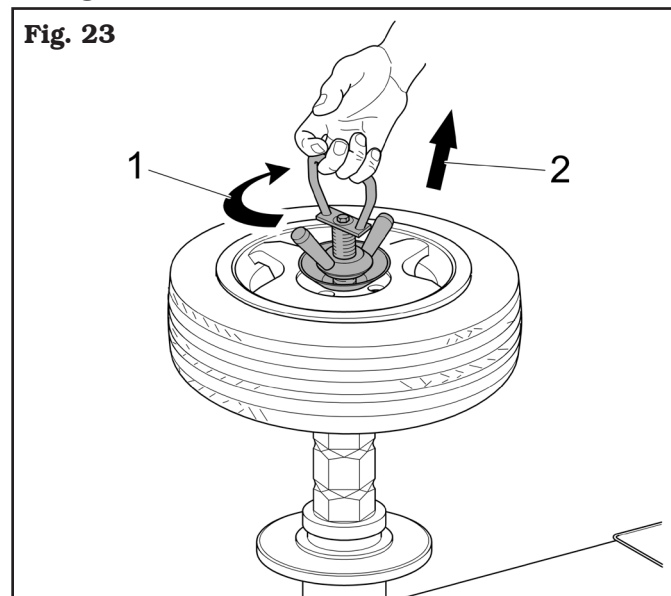

Fig. 23
5. Turn through 90° (Fig. 23 ref. 1) and lift the shaft (Fig. 23 ref. 2) to hook it inside the hole.